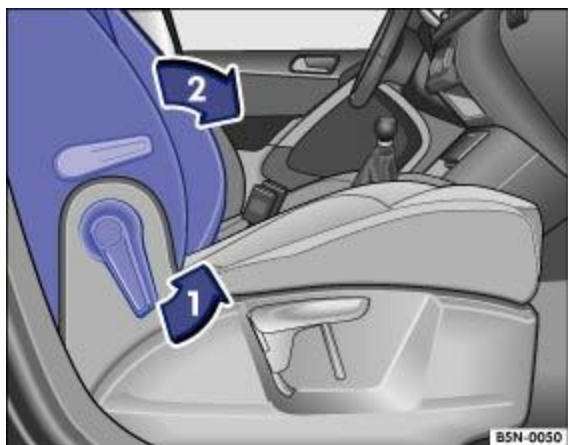

Fig. 70 Front passenger seat: folding backrest forwards.
Release the front passenger seat backrest in the direction of the arrow ⇒ Fig. 70 ① .
Fold the front passenger seat backrest forwards in the direction of the arrow ⇒ Fig. 70② until it is horizontal.
To fold back, release the front passenger seat backrest again ⇒ Fig. 70①.